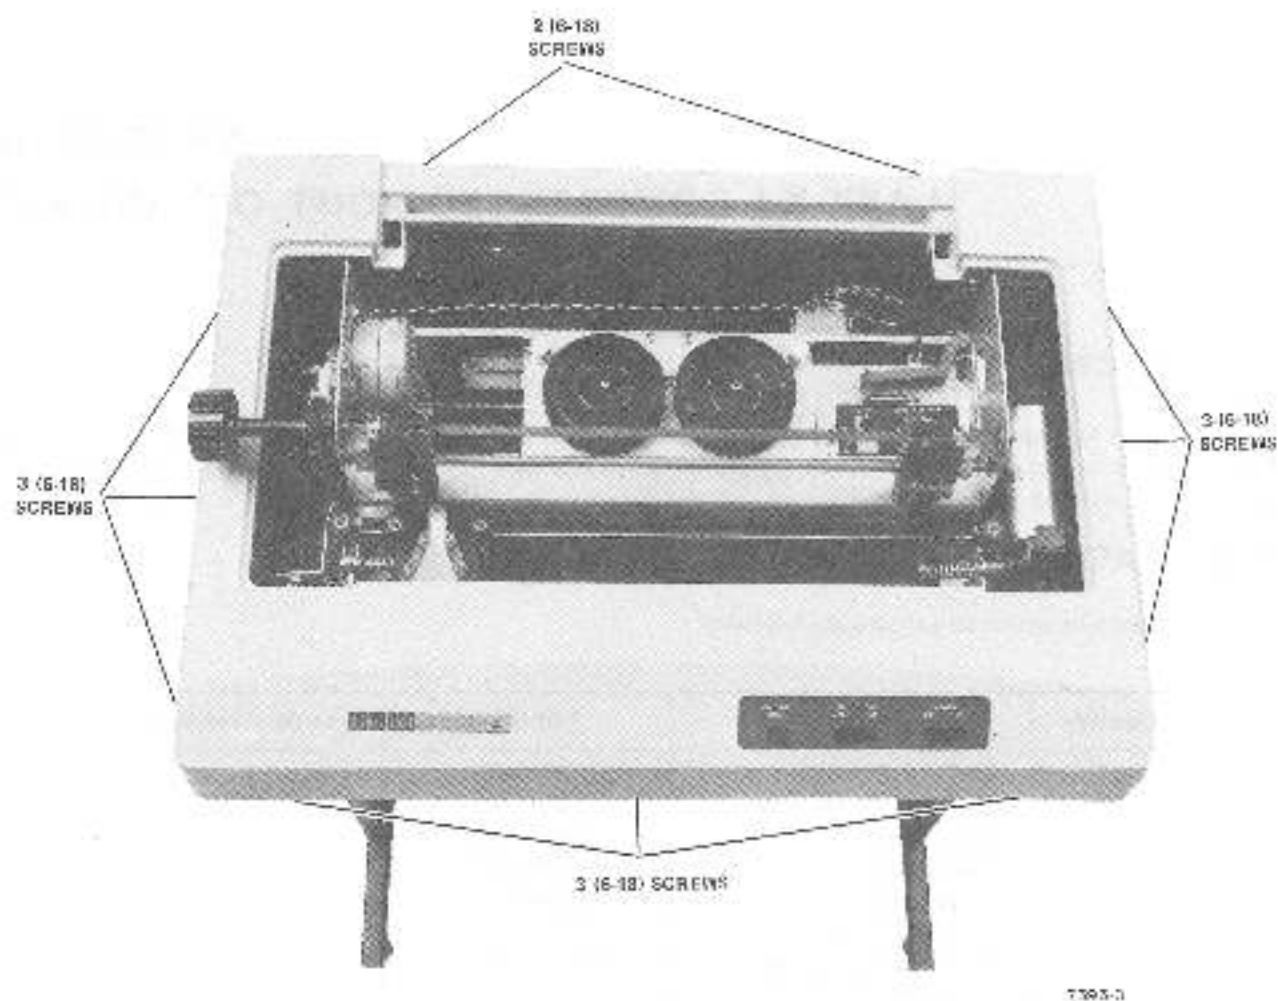

Figure 19 Printer Housing Removal
3. Remove eleven 6-18 screws and flat washers that secure the printer housing to the cabinet base (Figure 19) and set aside.